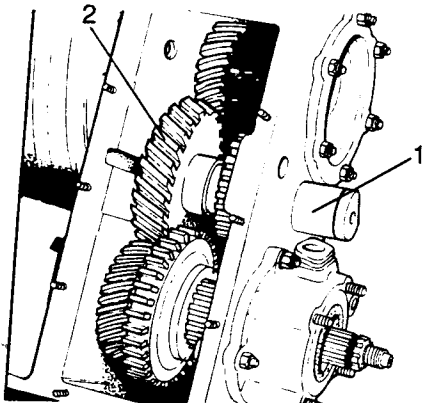

Fig H2.8
- (4) Refer to Fig H2.8. Remove the double intermediate gear shaft (1) using special tool 262772.
- (5) Remove the gear (2) together with its roller bearings and thrust washers.